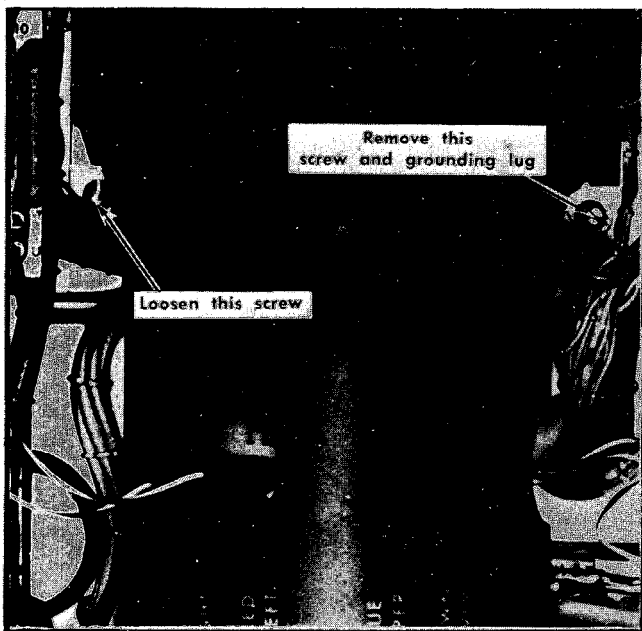

Fig. 4-10. Mounting screws for the honeycomb assembly,
1. Remove the six (6) nuts and washers that hold the IF ATTENUATOR dB switches at the front panel assembly.
2. Remove the chassis mounting screw and grounding lug located at the outside rear end and loosen the inside rear mounting screw. See Fig. 4-10.